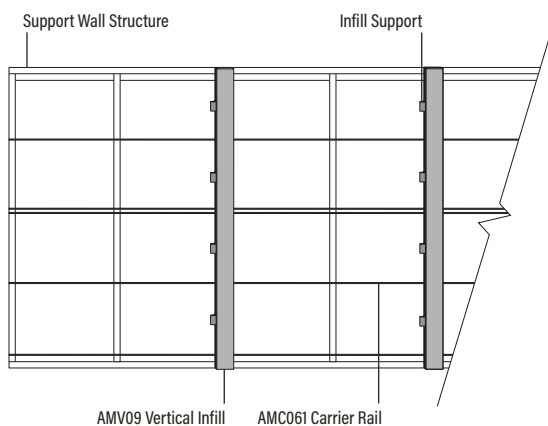

**Fig. 3**
2. Top Panel Rails are pre-mounted according to figure 3 or figure 4 (ceiling abutment).